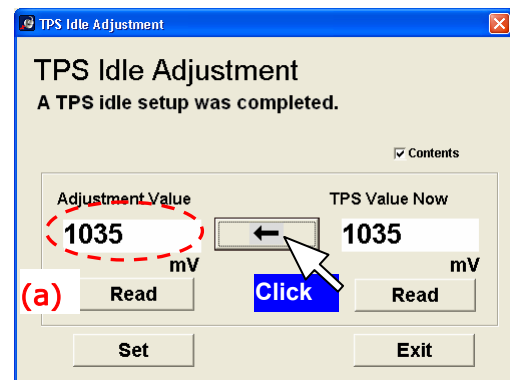

Fig. 9-4-4-3
- iv) Select the [**Read**] button (Fig. 9-4-4-3 (a)), and the current setting of the ECU will be displayed again.